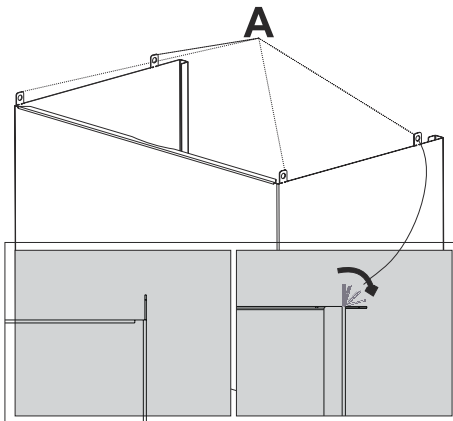

Fig. 15
6. → Pull the interior flue through the exterior flue. Interior flue has 4 mounting parts on it. Bend these interior parts outwards 90° (Fig. 15).